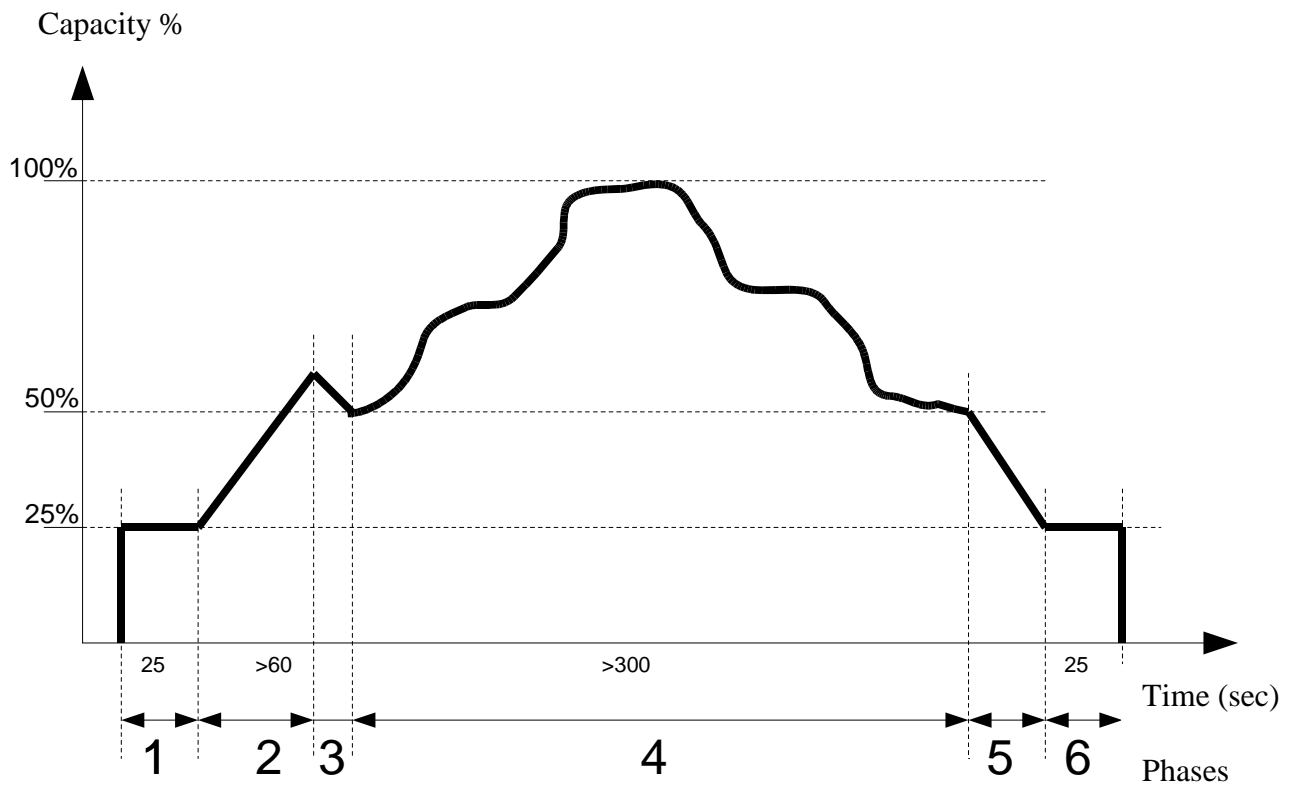

Figure 3-P Logic control of solenoid valves for stepless configuration
In the models 255/285/305/755/785/885/985 with this configuration, see picture 3-O, the plate (4) is configured so that the solenoid valve (16) controls the oil flow entering the hydraulic cylinder that operates the slide valve (section of the circuit marked by numbers 3 and 4 in Figure 3-B). The 75% step control function is disabled, and for this reason the section of circuit marked by numbers 1 and 2 in picture 3-A will not be shown in picture 3-O below.
To limit the peak current when starting, the electric motors are started in the part-winding configuration, or alternatively with the windings connected in the star configuration (see chapter EA-05: *'Electrical devices'*). This, however, means also a drop in the starting torque, and as a result the resisting torque needs to be reduced in order to start the compressor without excessively overloading the electric motor. For this purpose, Refcomp recommends to start the compressors at the minimum capacity step, see Figure 3-Z.